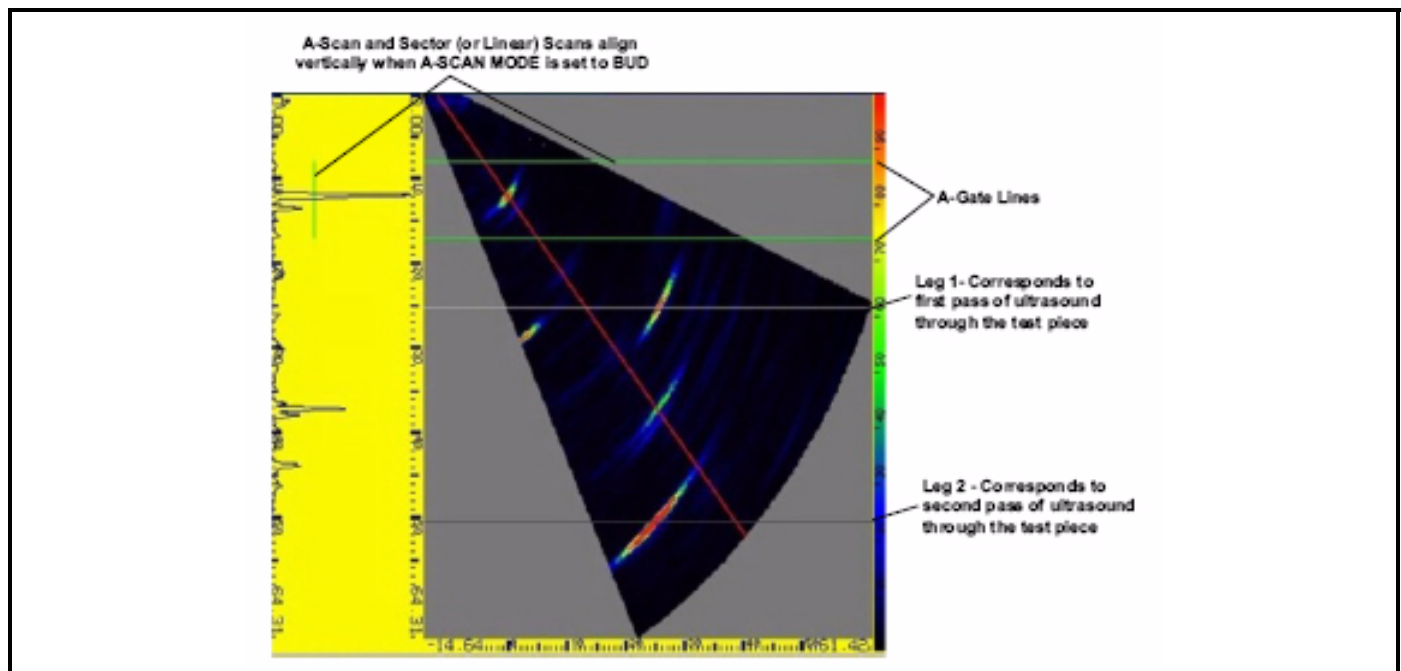

Figure 15: Changing the number of displayed LEGs modifies the displayed sound-path range. In this case, approximately 2.5 legs are displayed here.
The displayed sector or linear scan represents the reflection of sound off various features in the test piece. The display range (distance traveled by the sound beam in the test piece) is altered by adjusting the LEG setting. The effect of this adjustment is to show fewer (or additional) legs as shown in Figure 15 below. To modify the LEG setting,
1. Make sure the COLOR LEG function (DISPLAY Menu, BACKGRND Submenu) is set to ON. This causes the leg lines shown in Figure 15 below to be displayed but is not otherwise required to use the LEG feature.